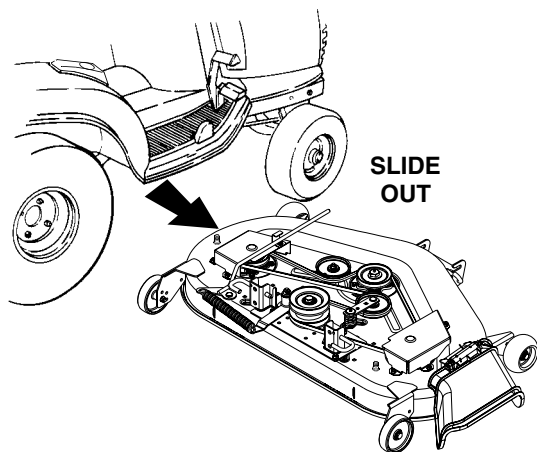

Figure 41
10. With the tractor implement lift handle raised to its highest setting, slide the deck to the right and out from under the tractor (See Figure 41).